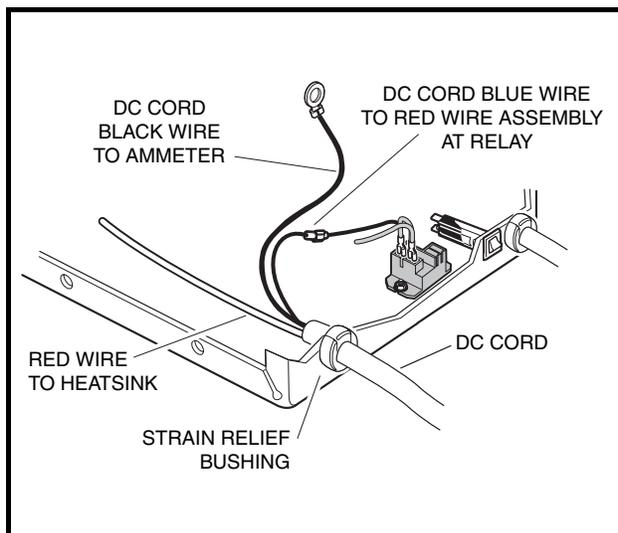
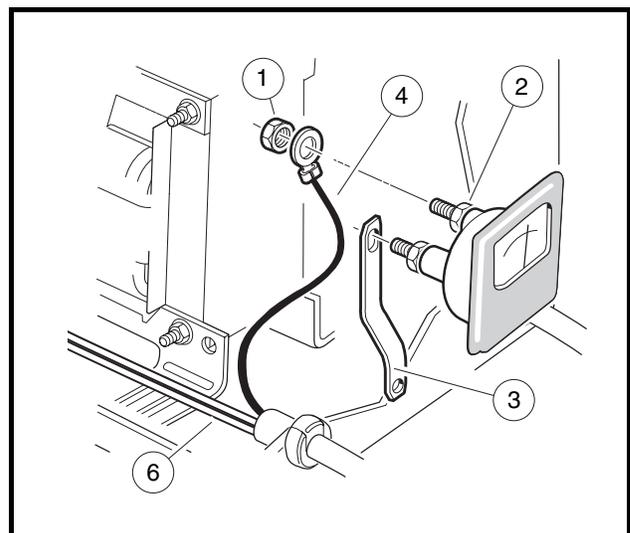

Figure 3-19 DC Cord
Figure 3-20 DC Cord Replacement
3. To check the continuity of the DC cord, disconnect the black wire of the DC cord from the ammeter **(Figure 3-19, Page 3-23)**.
3. Remove the DC cord black wire (4) from the ammeter by loosening the nut (1). Support the terminal as the nut is loosened to prevent rotation of the connection (Figure 3-20, Page 3-23).
4. Remove nut attaching the red wire (6) of the charger DC cord to the heatsink.
7. Disconnect the DC cord blue wire from the red wire assembly that connects to the charger relay (Figure 3-19, Page 3-23).
8. Using pliers, squeeze the strain relief bushing and remove the DC cord (Figure 3-19, Page 3-23).
2. Attach the red wire of the new DC cord to the center terminal of the heatsink and tighten the nut to 18 in-lb (2.0 N·m) (**Figure 3-19, Page 3-23**).
3. Attach the blue wire of the new DC cord to the red wire assembly at the charger relay (**Figure 3-19, Page 3-23**).
4. Attach black wire (4) of the new DC cord to ammeter. Install nut (1) onto post of ammeter slightly more than finger tight. While holding the inside nut (2), tighten the outside nut (1) 1/4 turn (**Figure 3-20, Page 3-23**). **See following CAUTION.**